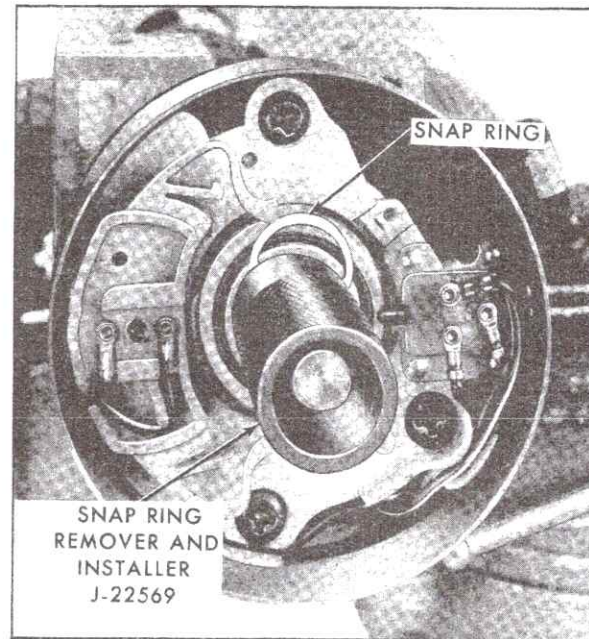

Fig. 9-44 Removing Snap Ring
10. Remove snap ring from steering shaft by engaging it with Snap Ring Remover and Installer J-22569 and turning tool to force snap ring sideways out of groove, Fig. 9-44.